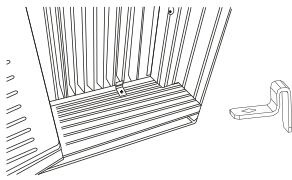
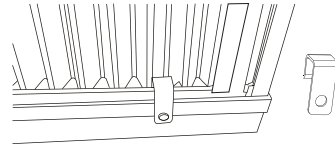

Fig.7A
Fig.7B
A. Place the frame lock between the frame extensions and the window sill as shown(Fig.7A for Wooden windows), (Fig.7B for Vinyl-Clad windows) .